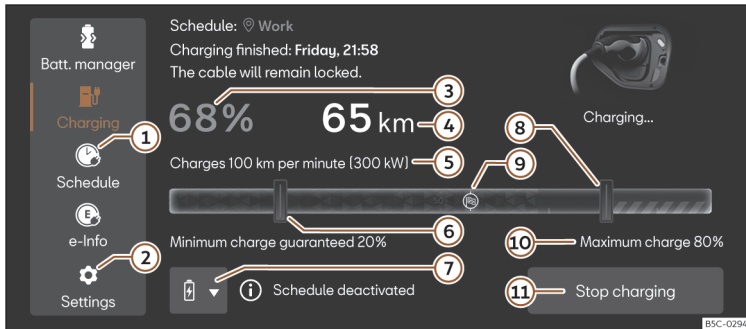

Fig. 67 In the infotainment system: Charging main menu.
2. Push the   >>> **Fig. 67** button.